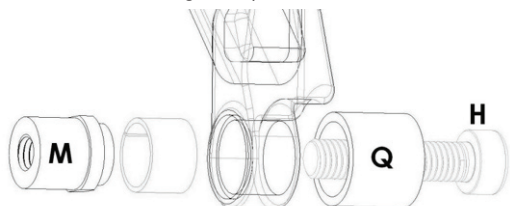

Fig. 9
5. To press fresh DU Bushings into the dropout pivots (Bikes with aluminum rear triangles only) orient the tools as seen in Fig. 9. The DU Press (M) should center itself inside the DU Bushing. Tighten the bolt until the Flange on the DU Press touches the dropout. Repeat for both left and right dropouts.